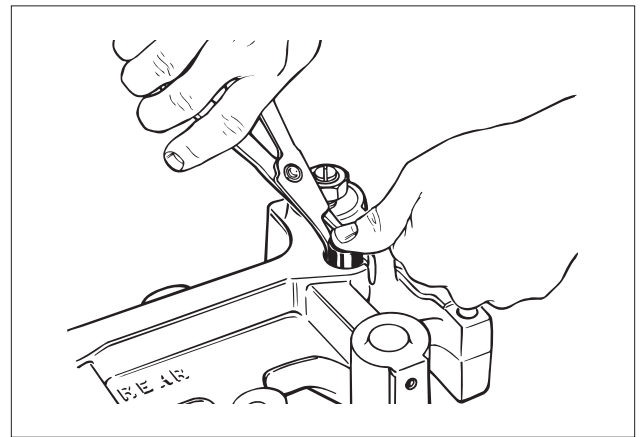

FIG. 17
1. Apply pressure on the control valve cover and remove retaining ring using retaining ring pliers (see Fig. 17).